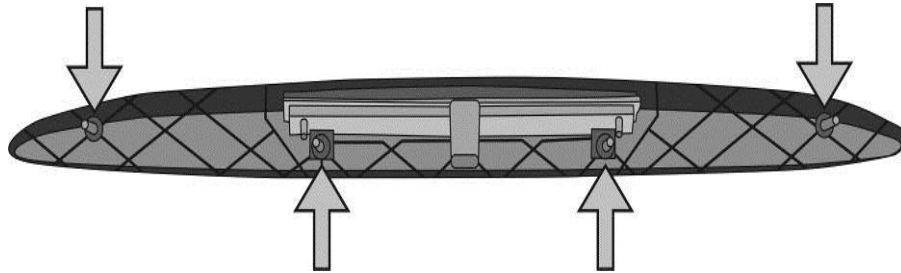

Figure 4.
- Using an E5 External Torx Bit and ratchet, remove (4) studs from Chimsel assembly (Figure 4). Set brake lamp and studs aside, as they will be used during spoiler installation.